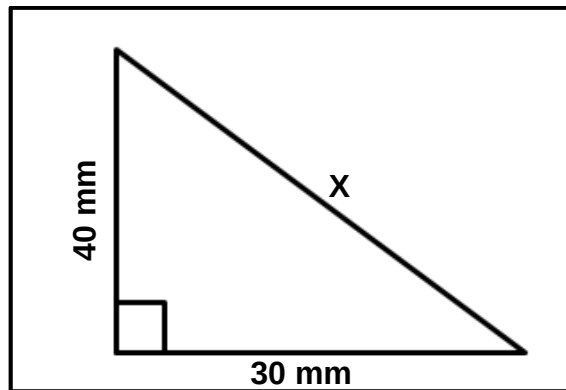

FIGURE 11.2
11.2 FIGURE 11.2 below shows a right triangle. Calculate the value of **X**.